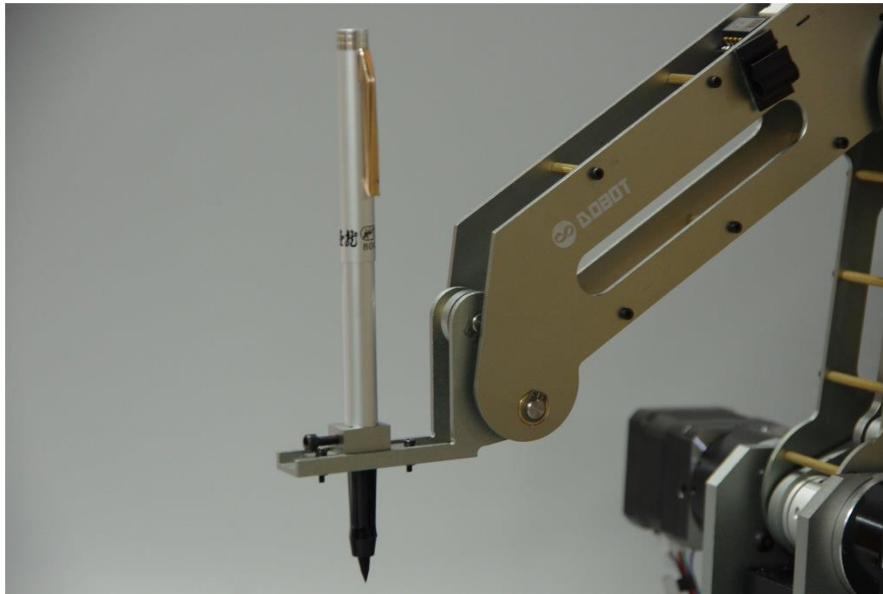

Figure 2.18 Pen installation
2. The installation is similar with the laser. Pen holder is mounted on the top of the end of robot arm with two M2 bolt, and put the pen/brush inside the pen holder, then fasten it with the M3 bolt from one side, shown in Figure 2.18;